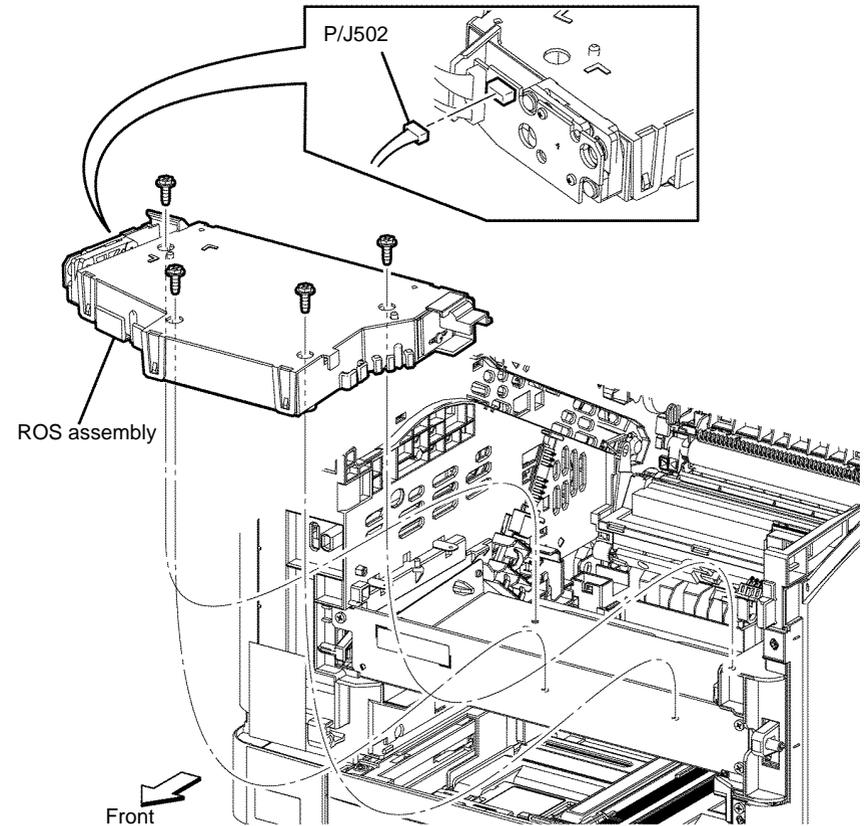

Figure 4 ROS assembly removal
6. Remove four screws (silver, flanged, M3, 10mm) that fix the ROS assembly, disengage PJ502, then remove the ROS assembly from the printer, Figure 4.